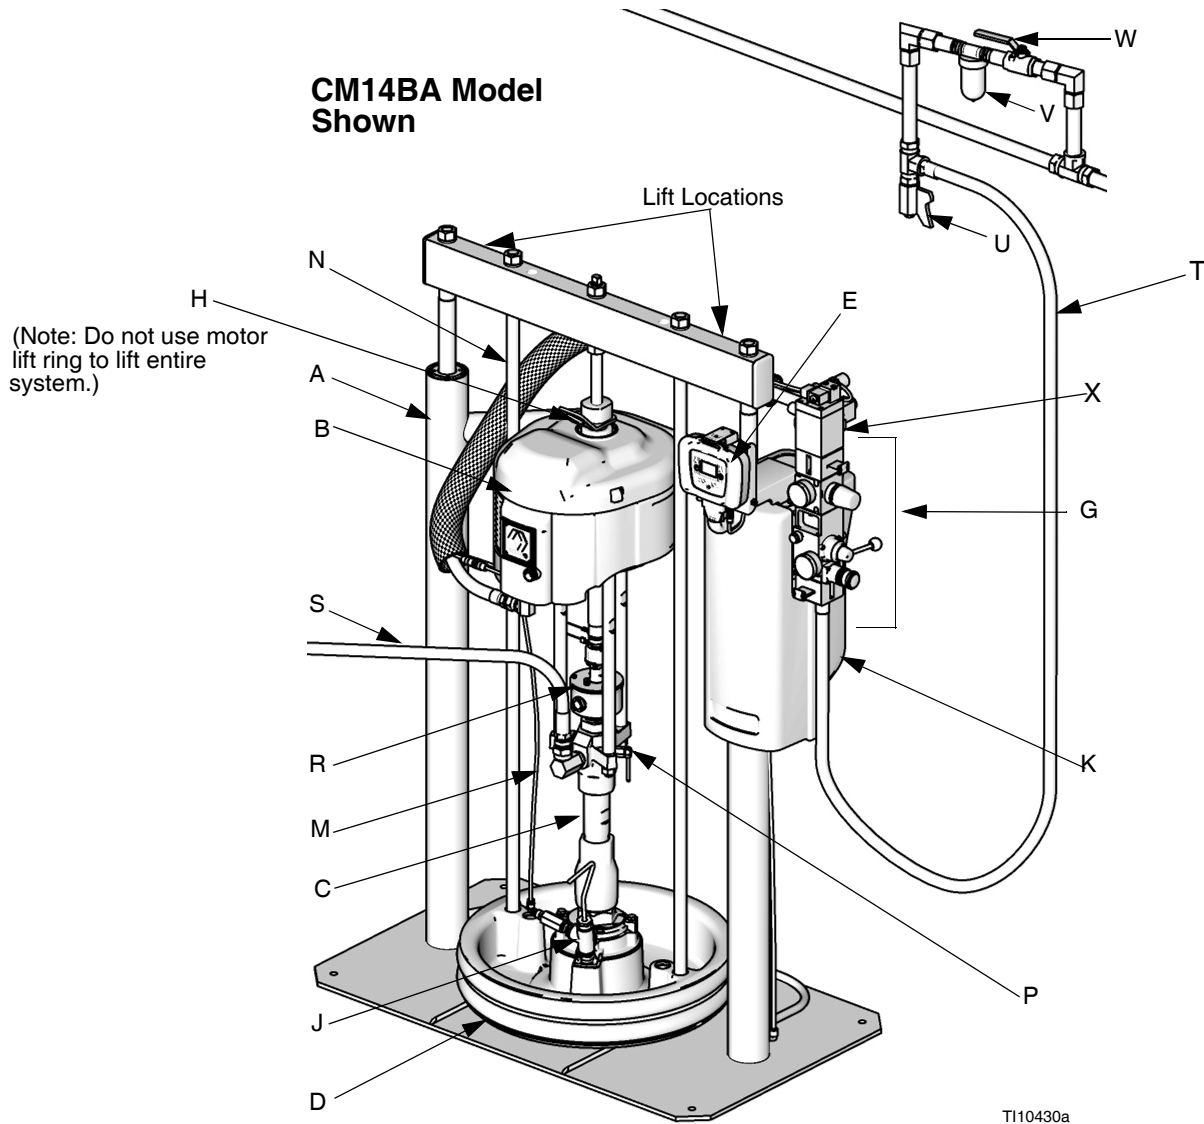
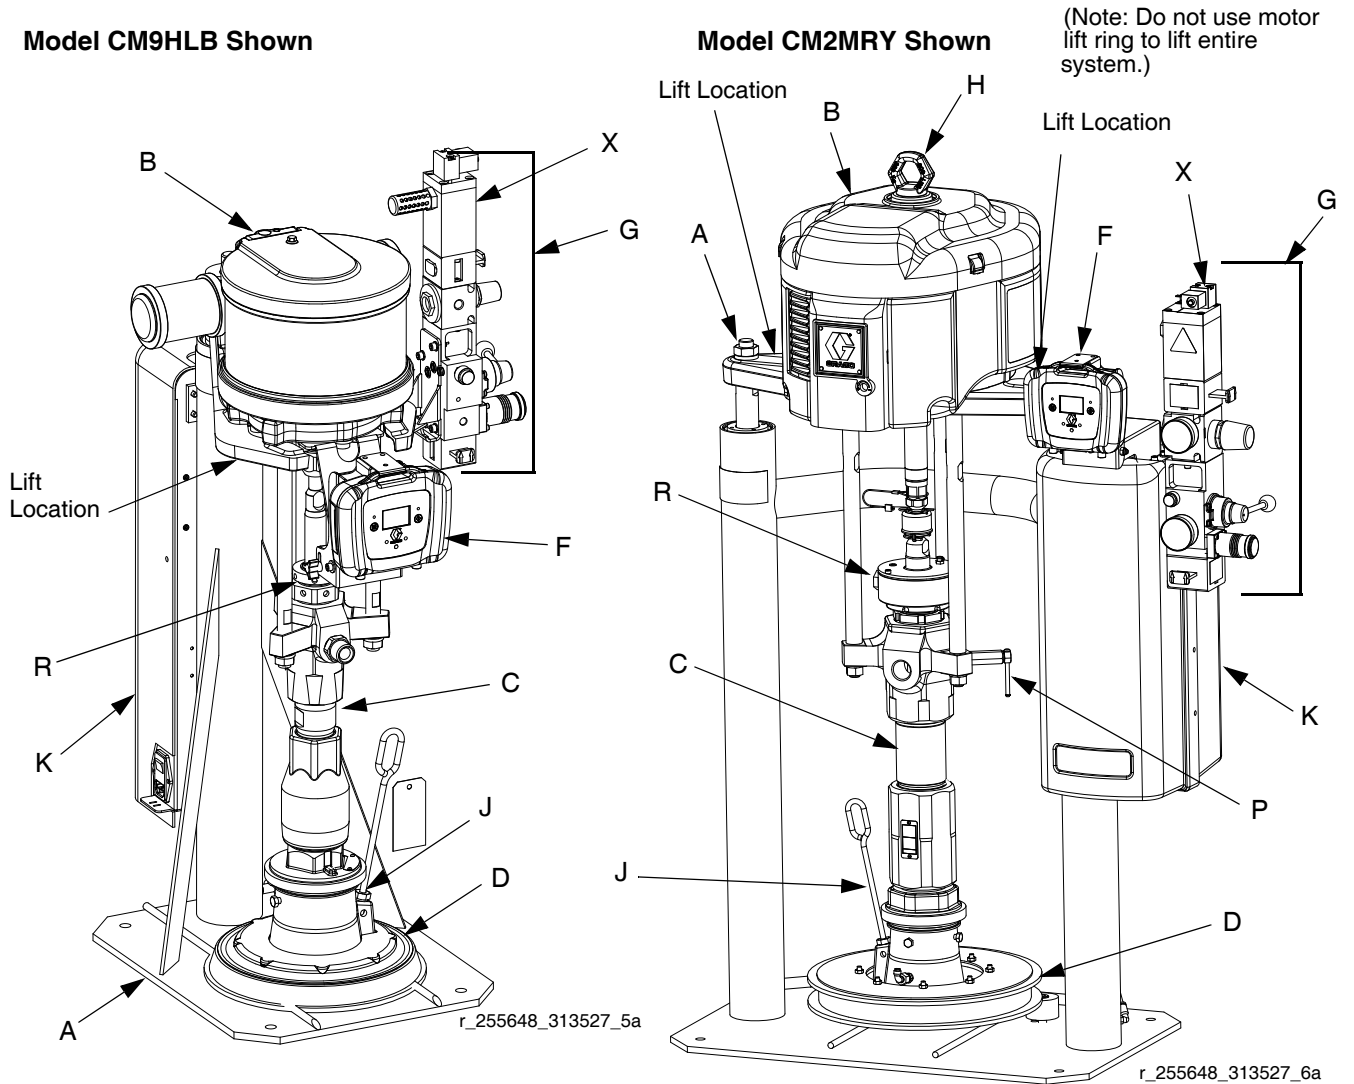

FIG. 1
FIG. 2
- S Fluid Line (not supplied, see FIG. 1)
- T Air Line (not supplied, see FIG. 1)
- U Air Line Drain Valve (not supplied, see FIG. 1)
- V Air Filter (not supplied, see FIG. 1)
- W Bleed Type Air Shutoff Valve (not supplied, see FIG. 1)
- **Main air slider valve (BA):** turns air on and off to the system. When closed, the valve relieves pressure downstream.
- **Ram air regulator (BB):** controls ram up and down pressure and blowoff pressure.
- **Ram director valve (BC):** controls ram direction.
- **Exhaust port with muffler (BD)**
- **Air motor regulator (BE):** Controls air pressure to motor.
- **Air motor slider valve (BF):** turns air on and off to the air motor. When closed, the valve relieves air trapped between it and the air motor. Push the valve in to shutoff. **Remote DataTrak:** The air solenoid (X, FIG. 1), the air motor slider valve (BF), and the main air slider valve (BA) must be open for air to flow. (See **Remote DataTrak Setup**, page 23.)
- **Blowoff button (BG):** turns air on and off to push the platen out of an empty drum.
See FIG. 1.
FIG. 1, FIG. 2, and FIG. 6 are only guides for selecting and installing system components and accessories. Contact your Graco distributor for assistance in designing a system to suit your particular needs.
Always lift supply system at proper lift locations (see FIG. 1, FIG. 2, and FIG. 6). Do not lift in any other way.
3. Connect air line from an air source to the system air inlet. See FIG. 1 or FIG. 2. Refer to the pump performance curves in manual 312376 to determine your air supply flow requirements. Use a supply hose capable of meeting the required flow.